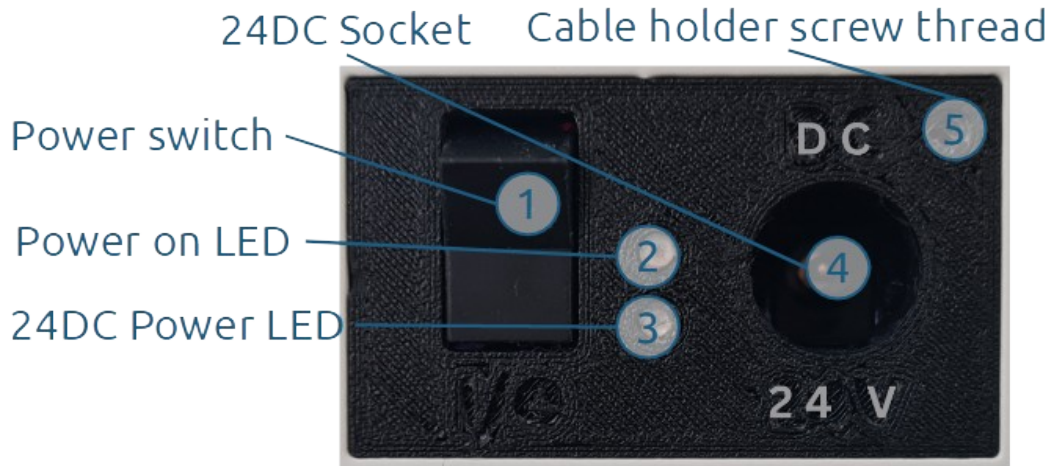

Figure 5:
Figure 5 shows the elements of the power panel.
1. Power on the device with the *power switch* located at the rear of the device (see Figure 5; page 11).